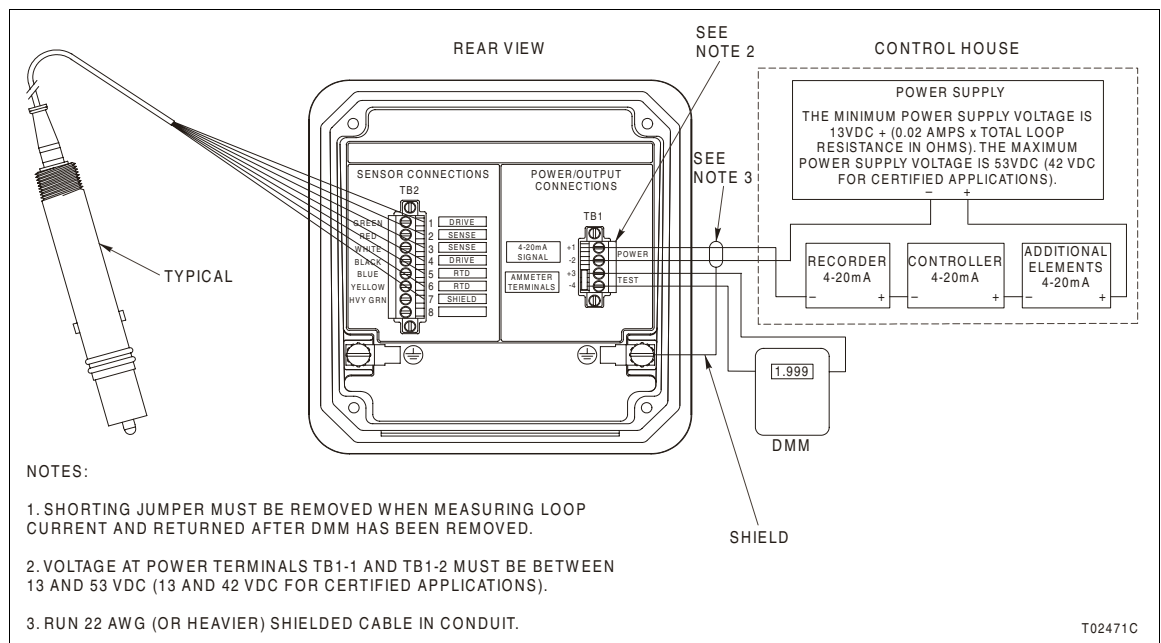

Figure PR10-1. Output Calibration Setup
2. Use the small flat-blade screwdriver to remove the shorting jumper from the test terminals, TB1-3 (+) and TB1-4 (-), as shown in Figure PR10-1.